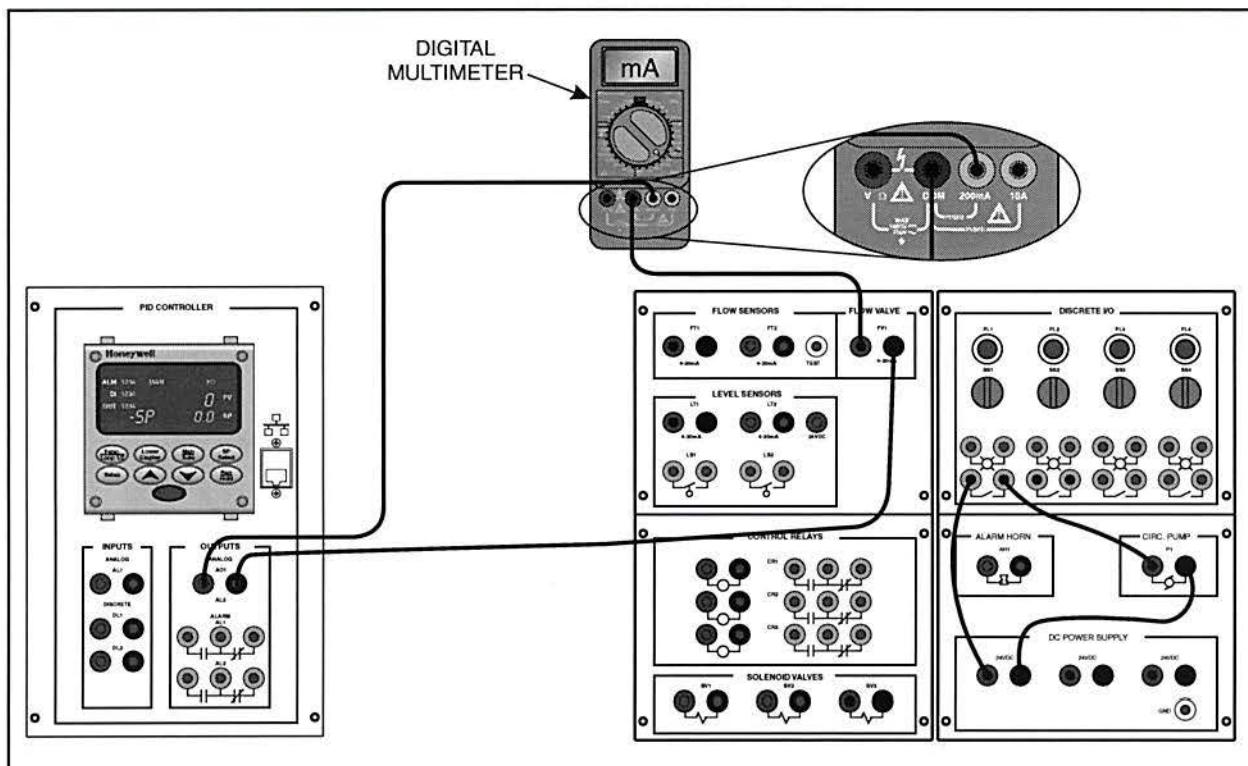

Figure 12. Flow Control Circuit
F. Connect the circuit shown in figure 12.